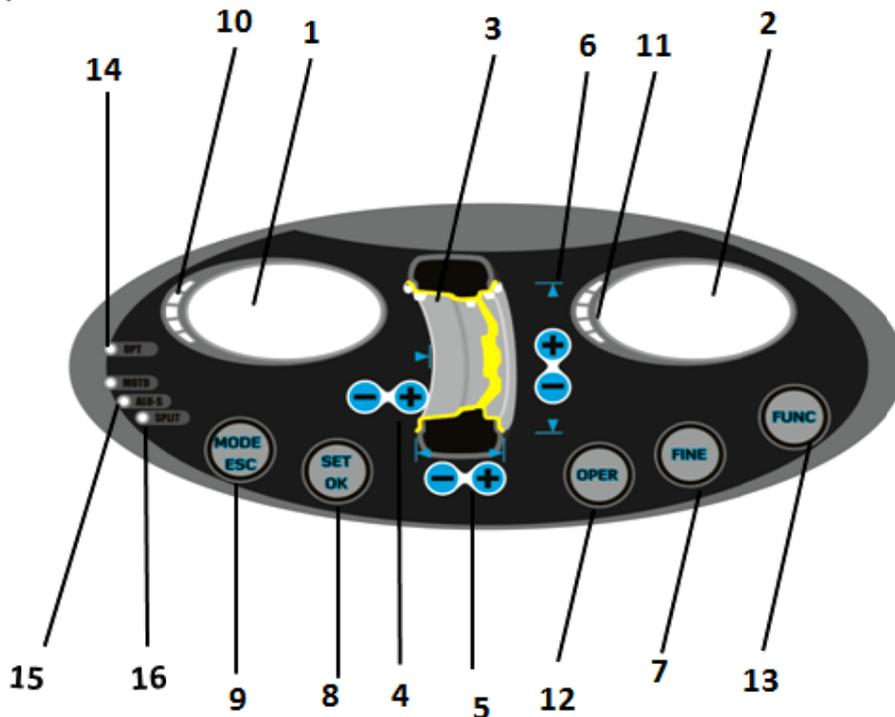
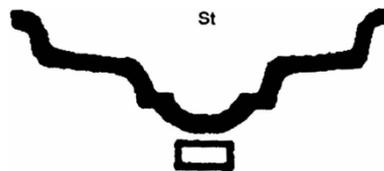
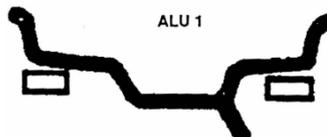
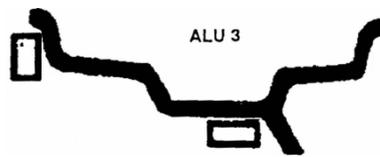

Fig 5-1
Fig 7-5
Fig 7-7
Fig 7-9
Fig 5-1 is figure of keyboard and display, introduction is as follows:
Slowly rotate wheel, when inside position indication LEDs all light, ( Fig 5-1 (10) ), at the 12 o'clock position of rim inside , clamp weights equal to value shown on the left side display ( Fig 7-3). Then slowly rotate wheel, when outside position indication LEDs all light, ( Fig 5-1 (11) ), at the 12 o'clock position of rim outside , clamp weights t equal to value shown on the right side display ( Fig 7-4) . Rotate wheel by hand again, move hand away when display is off. When both side display are on, wheel stops and balancing is completed.
Under normal mode, measure diameter d value ( Fig 7-5 ), press [d-] or [d+] to input d value. ( a value and b value can be any value ) . Press [MODE] key to make ST mode indication light on, enter static (ST) balancing mode, mode indication as following figure.
Input rim data, manually rotate wheel, when display shows "RUN ---", move hand away to let wheel rotate. Then right display shows ST and left display shows static imbalance amount as Fig 7-6. After wheel stops rotating, slowly rotate wheel, when inside position indication LEDs ( Fig 5-1 (10) ) and outside position indication LEDs ( Fig 5-1 (11) ) all light, stick weights equal to value shown on the left side display, at the 12 o'clock position of middle rim ( Fig 7-5 ). Again manually rotate wheel, when display shows "RUN ---", move hand away to let wheel rotate. When both side display are on, wheel stops and balancing is completed.
Input rim data, manually rotate wheel, when display shows “RUN ---”, move hand away to let wheel rotate. When display shows “STOP”, wheel stops and display shows data. Slowly rotate wheel, when inside position indication LEDs all light, ( Fig 5-1 (10) ), at the 12 o'clock position of rim inside edge , stick weights equal to value shown on the left side display ( Fig 7-7 left) . Then slowly rotate wheel, when outside position indication LEDs all light, ( Fig 5-1 (11) ), at the 12 o'clock position of rim outside edge , stick weights equal to value shown on the right side display ( Fig 7-7 right) . Rotate wheel by hand again, when display shows “RUN ---”, move hand away to let wheel rotate. When both side display are on, wheel stops and balancing is completed.
Input rim data, manually rotate wheel, when display shows “RUN ---”, move hand away to let wheel rotate. When display shows “STOP”, wheel stops and display shows data. Slowly rotate wheel, when inside position indication LEDs all light, ( Fig 5-1 (10) ), at the 12 o'clock position of rim inside edge , stick weights equal to value shown on the left side display ( Fig 7-8 left) . Then slowly rotate wheel, when outside position indication LEDs all light, ( Fig 5-1 (11) ), at the 12 o'clock position of rim inside , stick weights equal to value shown on the right side display ( Fig 7-8 right) . Rotate wheel by hand again, when display shows “RUN ---”, move hand away to let wheel rotate. When both side display are on, wheel stops and balancing is completed
Input rim data, manually rotate wheel, when display shows “RUN ---”, move hand away to let wheel rotate. When display shows “STOP”, wheel stops and display shows data. Slowly rotate wheel, when inside position indication LEDs all light, ( Fig 5-1 (10) ), at the 12 o'clock position of rim inside edge , clamp weights equal to value shown on the left side display ( Fig 7-9 left). Then slowly rotate wheel, when outside position indication LEDs all light, ( Fig 5-1 (11) ), at the 12 o'clock position of rim inside , stick weights equal to value shown on the right side display ( Fig 7-9 right) . Rotate wheel by hand again, when display shows “RUN ---”, move hand away to let wheel rotate. When both side display are on, wheel stops and balancing is completed